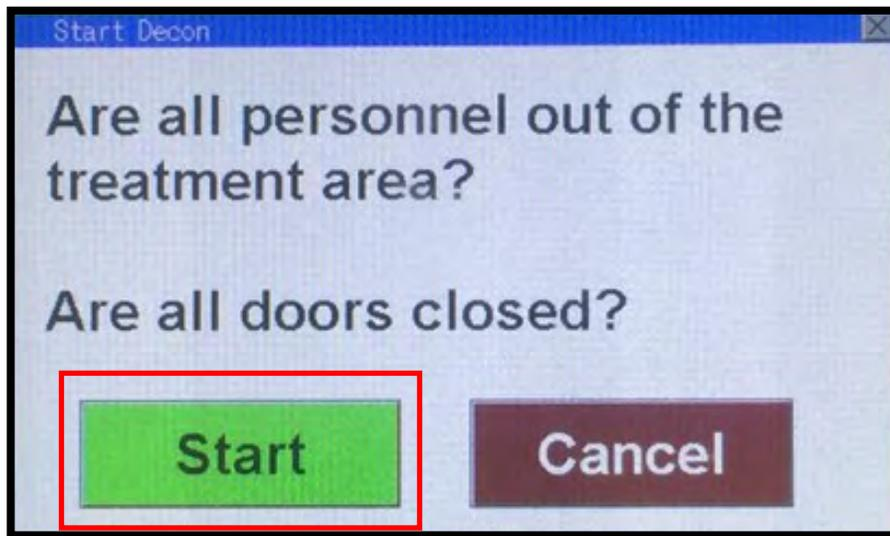

FIGURE 3
4.2.7 Once criteria on the safety prompt have been met, tap the “green” start button to begin the decontamination process (Figure 3).